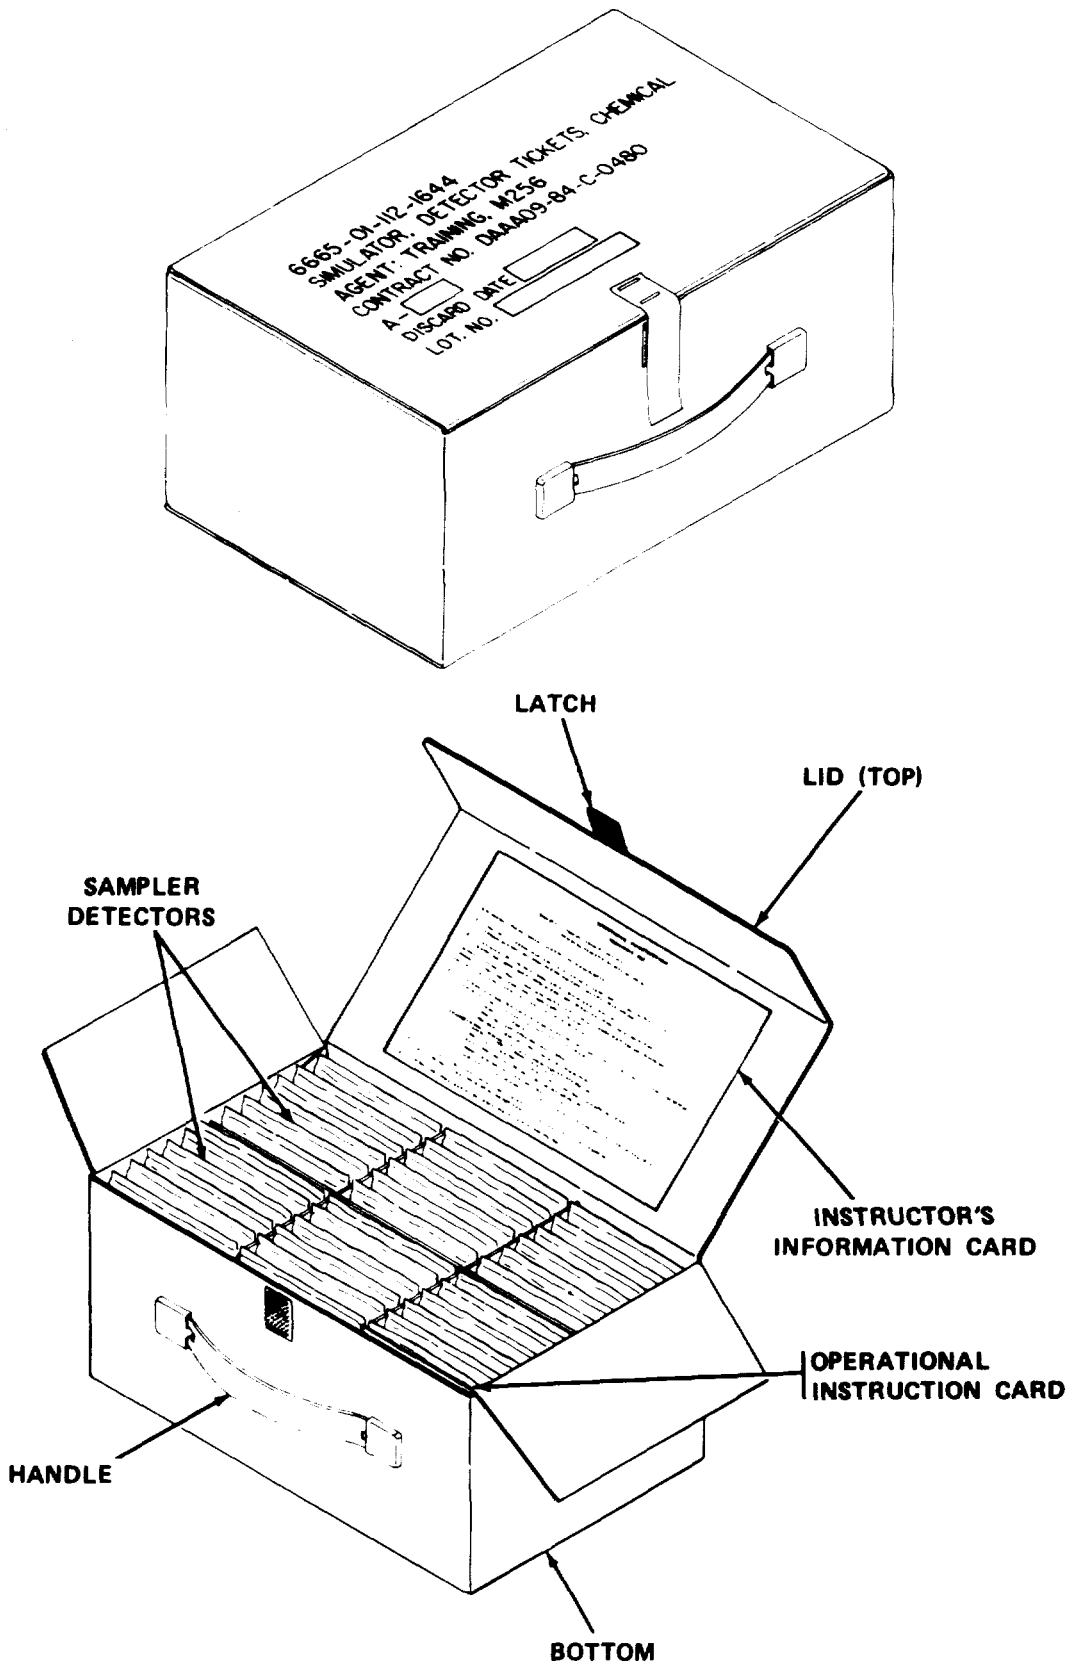

Figure 1-1. M256 Training Chemical Agent Detector Tickets Simulator.
1-1. SCOPE. This manual is for use in operating the M256 Training Chemical Agent Detector Simulator (fig. 1-1). This equipment will be referred to as M256 Training Simulator and can be used to simulate M256 or M256A1 Detector Kit responses.
a. *Purpose.* The purpose of the M256 Training Simulator (fig. 1-1) is to simulate a chemical agent response in the absence of agent or simulant in a training environment.
(1) Carrying box. The carrying box is blue in color to indicate a training aid.